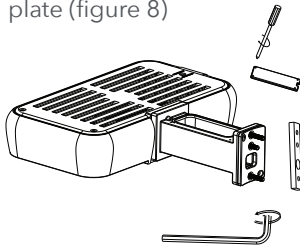

Figure 8
2. Unscrew the screw on the top of direct bracket, and remove the top cover, install backing plate (figure 8)